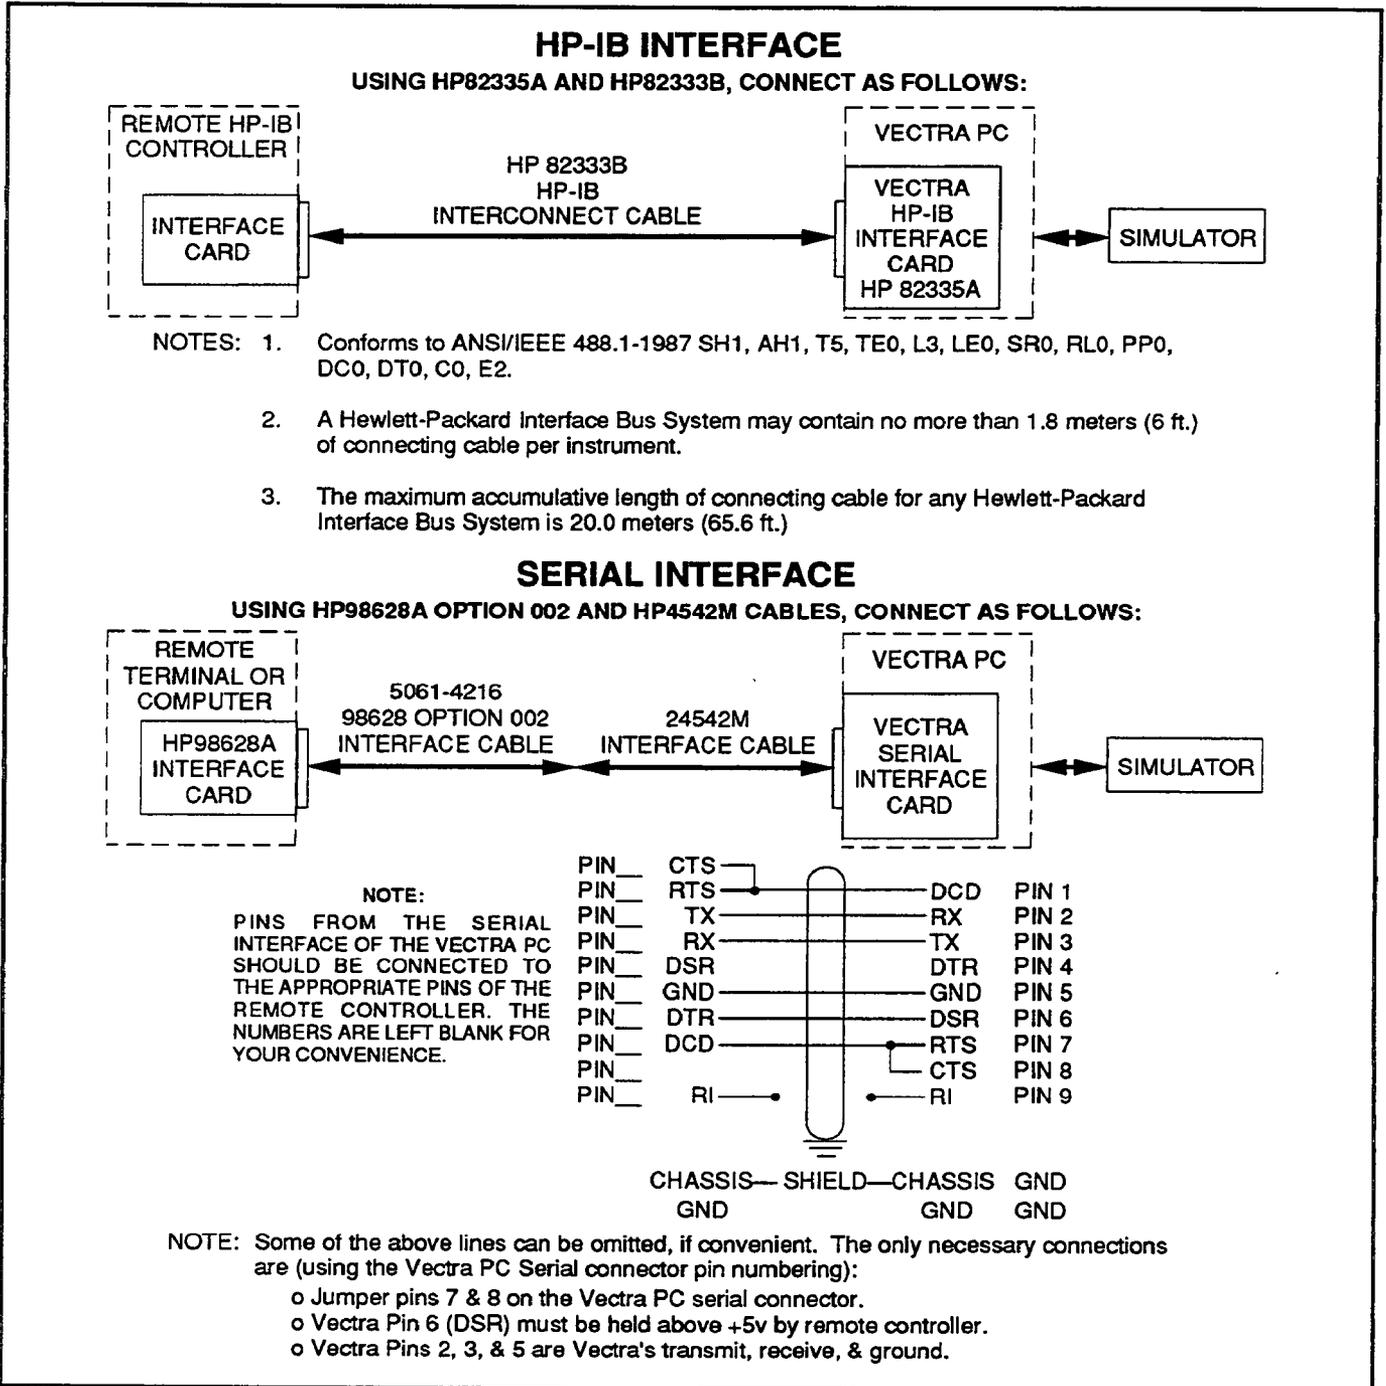

Figure 2-4. Installing Remote Terminal/Computer Procedures
2. Connect the remote terminal or computer serial interface, or remote HP-IB controller to the Vectra PC as shown in Figure 2-4.